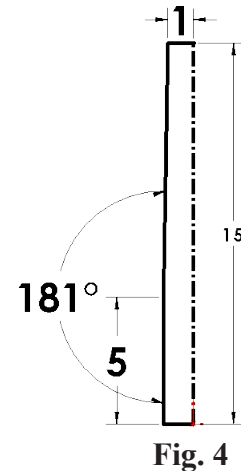

Fig. 4
- Step 9. Click **Smart Dimension**  (S) on the Sketch toolbar.
- Step 10. Add dimensions as shown in **Fig. 4**. First, dimension the vertical line **5** and across the width **1**. Dimension the angle **181° degrees** between the vertical line and angled line. To Smart dimension the angle, click both lines, then move the cursor outside the angle and click. Key-in **181** for the dimension and press ENTER.